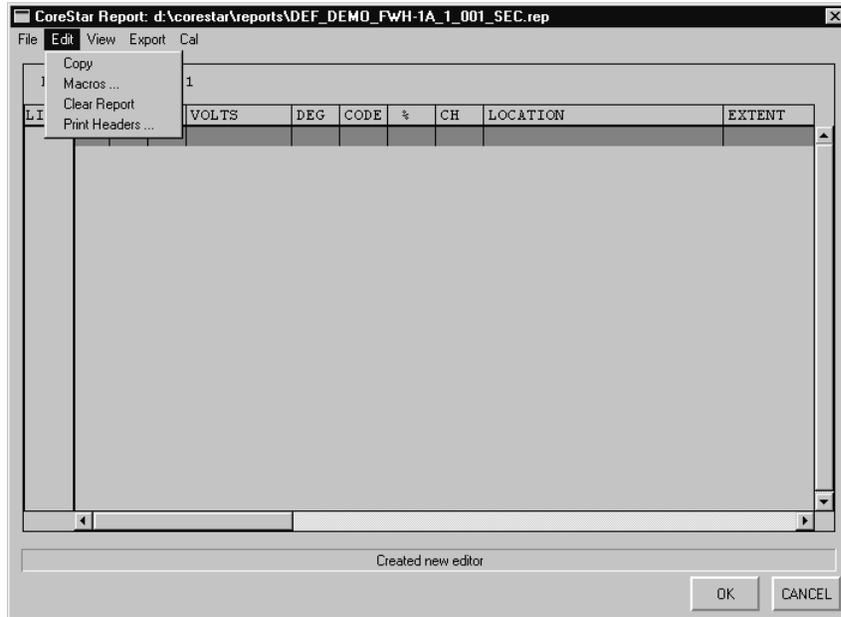
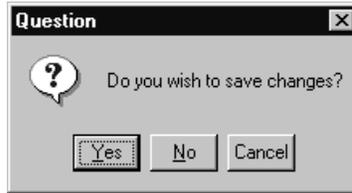
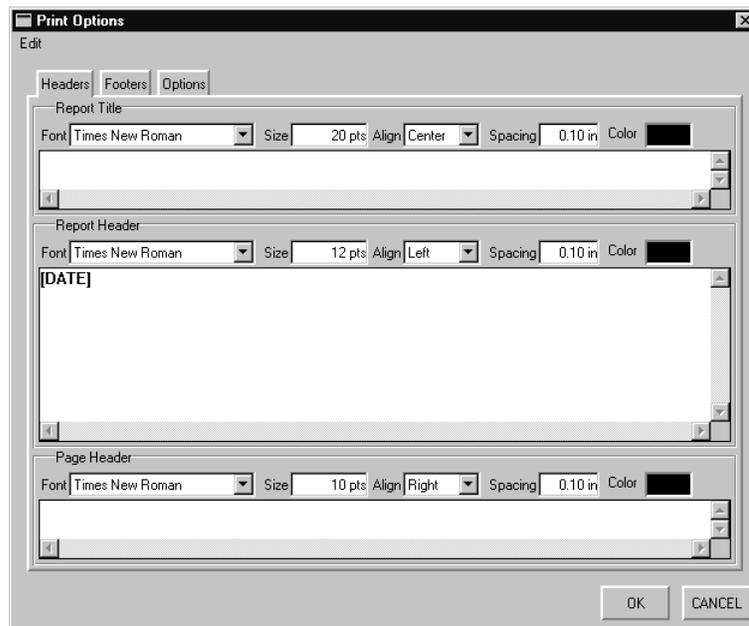

Figure 3-57. Edit Menu on Report Editor Dialog
Figure 3-65. Message Box After Clicking CANCEL on the **Report Editor** Dialog
Figure 3-66. Print Options Dialog - Headers Tab
Figure 3-57 shows the contents of the **REPORT > Edit** menu. Each selection on this menu is discussed below.
- ❑ **REPORT > Edit > Clear Report:** Selecting **Clear Report** from the **Edit** menu shown in Figure 3-57 deletes or *clears* the present eddy current report in its entirety from the **Report Editor** dialog. If an existing report is inadvertently cleared using this function, click the **CANCEL** button. This causes the message box shown in Figure 3-65 to appear. Click **No** to *cancel* the changes. Click the **Report** button, and the **Report Editor** dialog appears with the original unedited report intact.
- ❑ **REPORT > Edit > Print Headers ...:** Selecting **Print Headers ...** from the **Edit** menu shown in Figure 3-57 displays the **Print Options** dialog shown in Figure 3-66. The **Headers** tab provides an area for the **Report Title**, **Report Header**, and **Page Header** to be entered and formatted as desired. The various text controls, i.e., font, size, alignment, etc., are self-explanatory. Experiment with this dialog until you get the results desired.
The **Edit** menu on the **Print Options Dialog** shown in Figure 3-69 contains only one (1) selection named **Set Defaults**. Selecting **Set Defaults** resets all the values in the **Print Options Dialog**, including all three (3) tabbed dialogs, to the default values shown in Figures 66 through 68. Note that some of the values are enclosed in square brackets ([ ]). This indicates an automated *macro* function. For example, the *macro* **[DATE]** shown in Figure 3-66 automatically inserts the current date when the report is printed. Other common system macros include: **[DATETIME]**, **[NUM\_PAGE]**, **[CUR\_PAGE]**, **[MONTH]**, and **[YEAR]**.